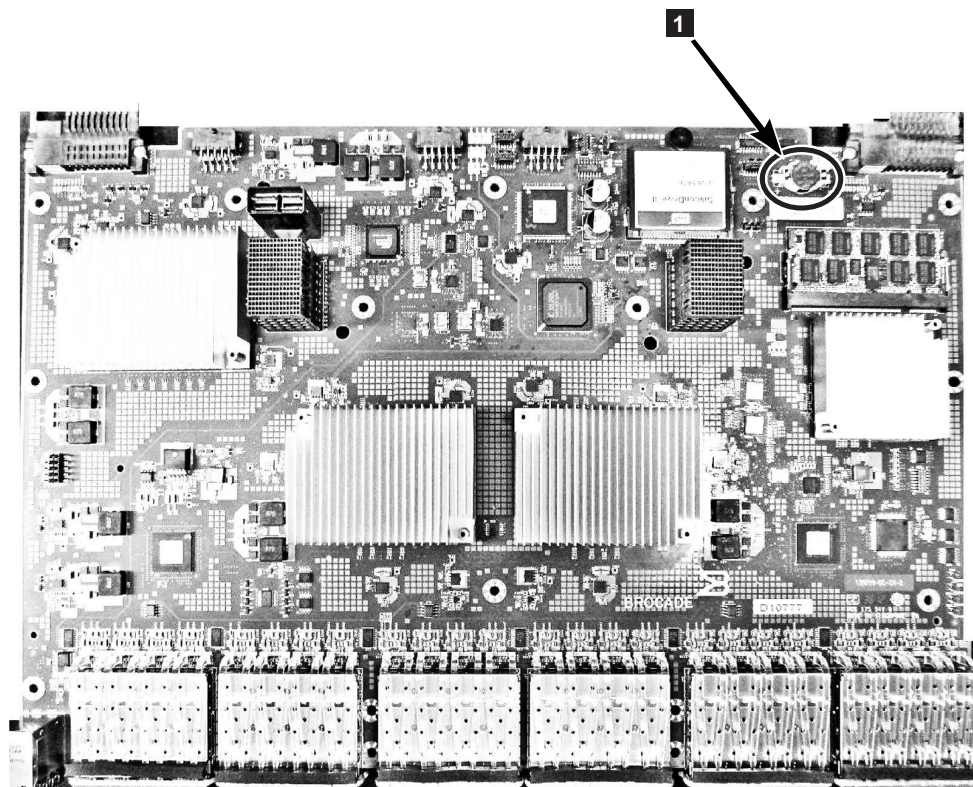

Figure 33. Location of battery holder
5. On the main circuit board, go to location **1** shown in Figure 33 and remove the BR1225 battery from the holder.